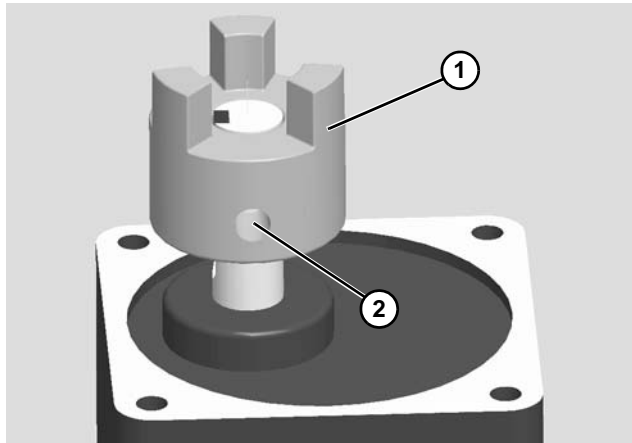

Figure 24
7. Install new 3 jaw coupling (Figure 24, item 1) on the gearmotor so that the coupling is flush with the end of the shaft. Tighten set screw (Figure 24, item 2) to 15 in-lb (1.7 Nm).